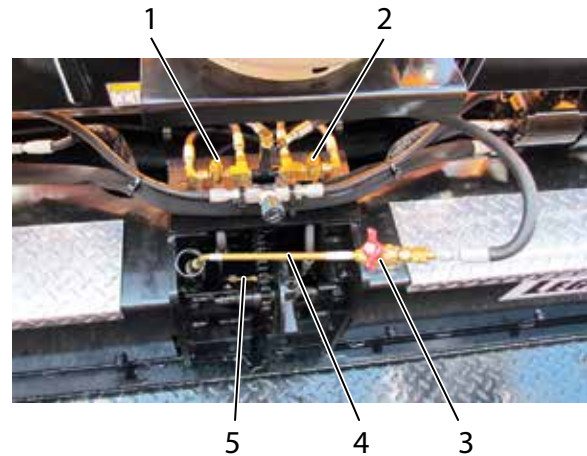
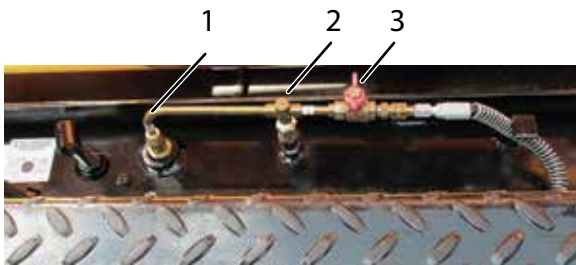

Figure 4-34. Burner Valves
Figure 4-35. Extension Burner Valve
The following procedure will provide the necessary steps in manually lighting the burners. It is important to remember that propane is a volatile and combustible gas and for this reason safety should be a major consideration. When treated with respect the propane will not present a problem. Follow the procedures below and refer to **Figure 4-33**, **Figure 4-34**, and **Figure 4-35** as required.
1. CLOSE all burners' valves at center of screed (**Figure 4-34,1,2,3**) and on both right and left extensions (**Figure 4-35,1**) by turning valves clockwise (CW).
3. Light Burner Ignitor (**Figure 4-34,4**) while turning Burner Ignitor Valve (**Figure 4-34,3**) counterclockwise (CCW) to the OPEN position.
NOTE: Use Burner Ignitor (**Figure 4-34,4**) to light main burners manually.
4. Direct ignitor flame into area of Main Burners (**Figure 4-34,5**) and turn Burner Valve counterclockwise (CCW) to the OPEN position.
6. The extension burners are held in position to the screed with a quick coupling connection. To ignite extension burner, remove the Extension Burner Ignitor (**Figure 4-35,3**) from Coupling Connector (**Figure 4-35,2**) turn Extension Burner Valve (**Figure 4-35,1**) counterclockwise (CCW) to OPEN position and light.
7. Once lit, reattach the Extension Burner Ignitor (**Figure 4-35,3**) to the Extension Coupling Connector (**Figure 4-35,2**).
2. Once flame goes out completely, close all Burner Valves at center of screed (**Figure 4-34,1,2,3**) and on both right and left extensions (**Figure 4-35,1**) by turning Burner Valves clockwise (CW) to the CLOSE position.